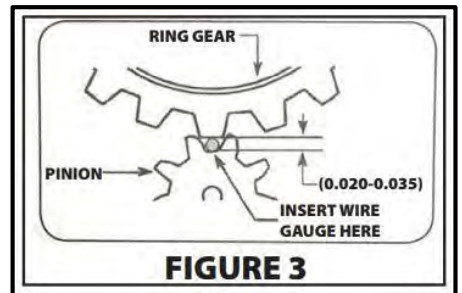

FIGURE 3
- GEAR MESH:** Carefully engage the starter pinion into the ring gear by either prying the gear out or supplying 12V to only the ignition post of the solenoid (Do not hold this voltage more than 5 seconds at a time). Use the supplied pin gauge to check the clearance between the two gears (Figure 3). This clearance should be 0.020-0.035, if the gear mesh is too tight install supplied block shims one at time until desired clearance is achieved. NOTE: The starter gear may stay engaged until the engine fires, DO NOT add shims in response to this. In some cases the gear mesh may be too loose without shims installed, in these cases the starter mounting block can be machined accordingly until correct tolerance is achieved.